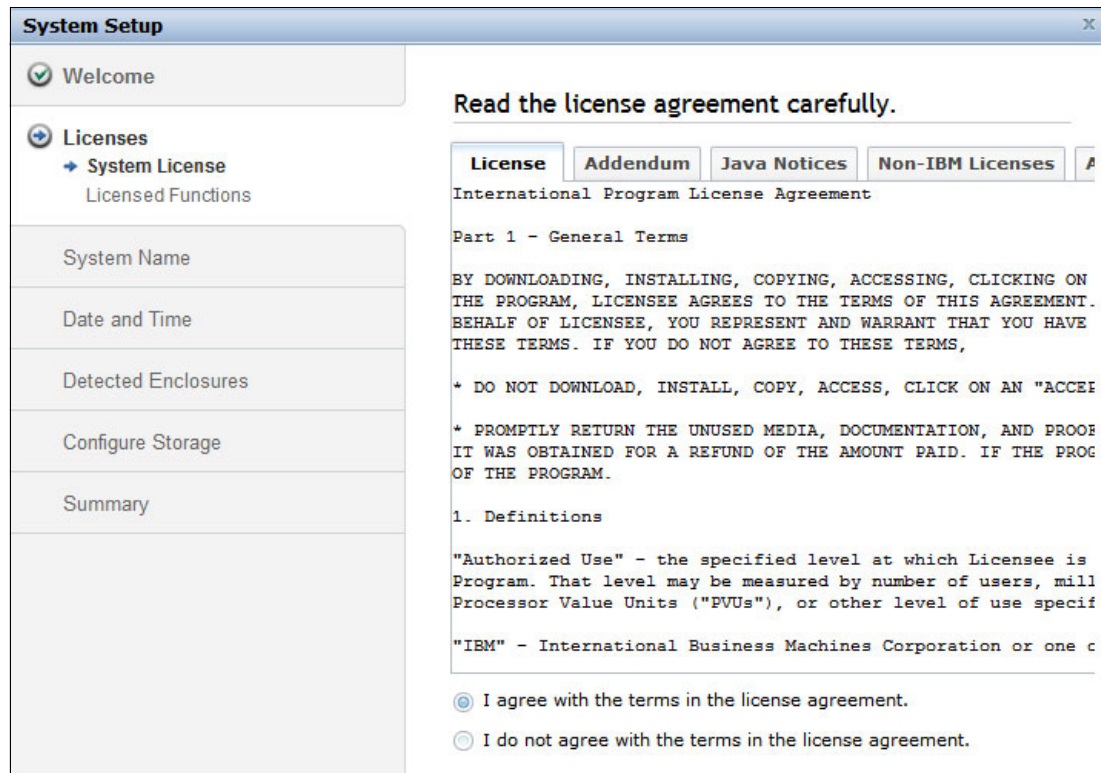

Figure 6-127 Setup wizard: License agreement
1. Read and accept the license agreement, as shown in Figure 6-127. Click **Next** after accepting the license agreement.